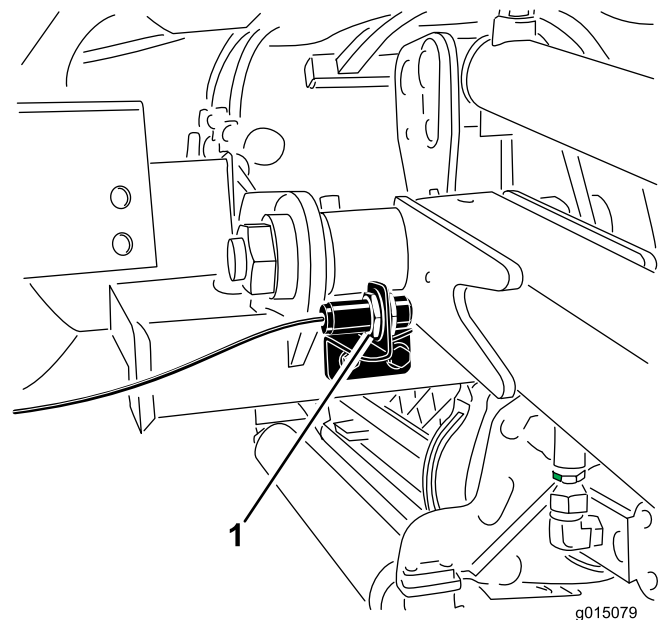

Figure 40
2. The lift arm switch is located behind the front right lift arm (Figure 40).
3. Loosen the switch mounting screws (Figure 40) and move the switch up to increase the lift arm